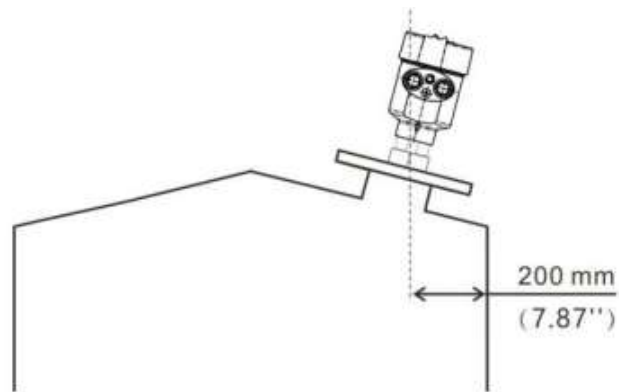

Figure 4-3 Keep at Least 200 mm from Vessel Wall
- *The instrument should be installed at least 20 cm away from the container wall; otherwise, incorrect readings may occur, as shown in Figure 4-3.*